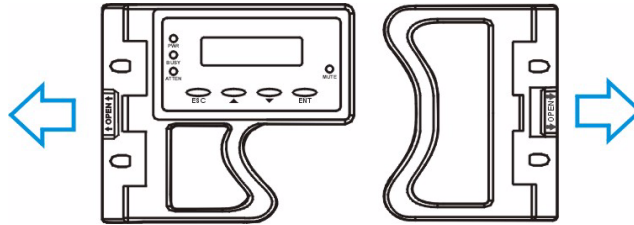

Fig. 6.7 Forearm Handle Locking Mechanism
- Forearm handles: If the hard drive is behind either the left or right forearm handle, make sure that the locking mechanism on the side of the handle is first released prior to opening the handle itself. (See *Figure 6.7*) The locking mechanism must also be released in order to close the handle. Therefore, after the new drive has been installed, it will be necessary to release the locking mechanism on the handle prior to closing it.